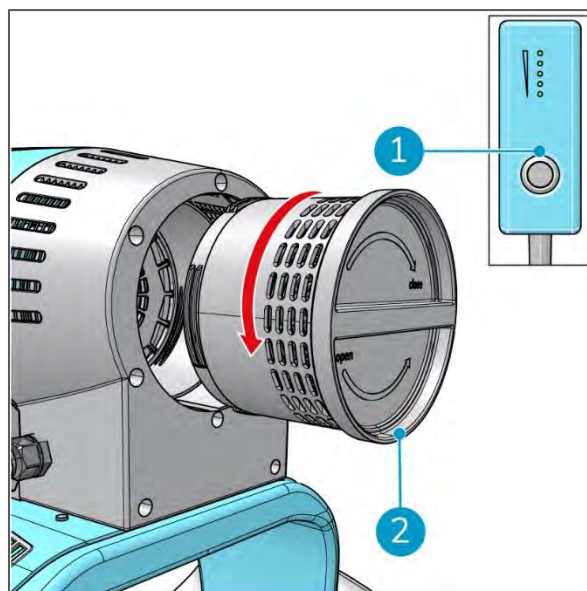

Figure 26
1. Turn off the i-move 2.5B® with the ON/OFF switch (Figure 26, pos 1).
3. Turn the filter housing (Figure 26, pos 2) counterclockwise to remove it from the bottom of the i-move 2.5B.